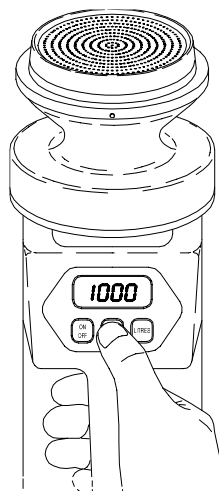

Fig. 4
6. Press the ON / OFF button. Set the sampling parameters, then quickly press the START / DELAY button twice (Fig. 4).